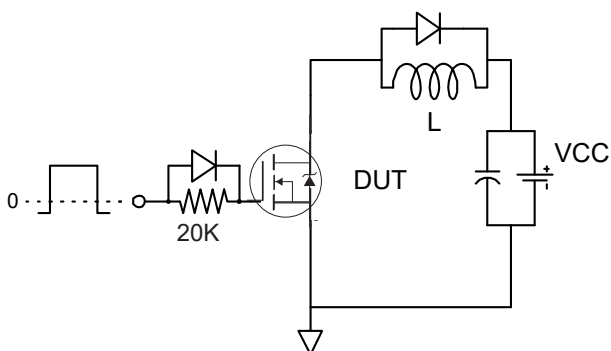

Figure 23a: Basic Gate Charge Waveform
3. Equation below based on circuit and waveforms shown in Figures 23a, 23b.